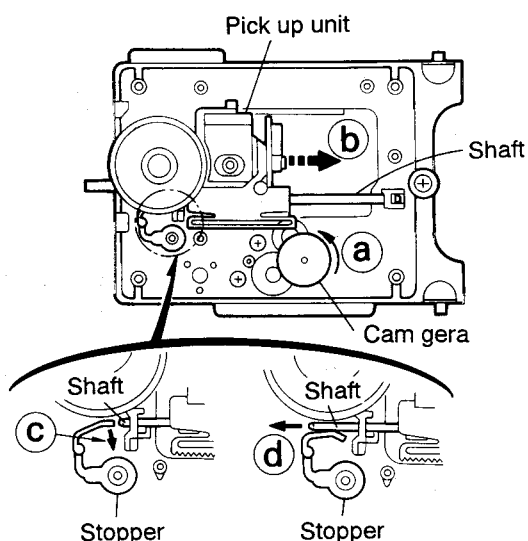

Fig. 5-27a
■ Removing the CD pickup unit (See Fig. 5-27a)
2. According to the above step, shift the CD pickup unit to the center position (Fig. 5-27a).
3. While pressing the stopper retaining the shaft in the arrow direction (c), pull out the shaft in the arrow direction (d) (See Fig. 5-27a).